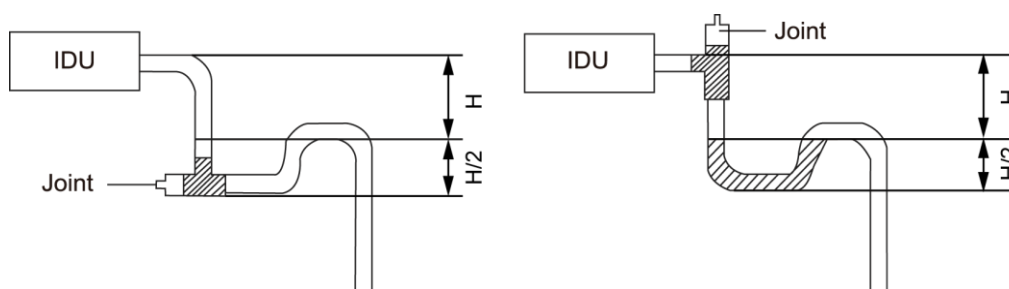

Fig. 4.37
- (5) Install the U-trap as shown in fig. 4.37.
- (6) One U-trap should be installed for every unit.
- (7) Convenient clean should be considered when installing U-trap.